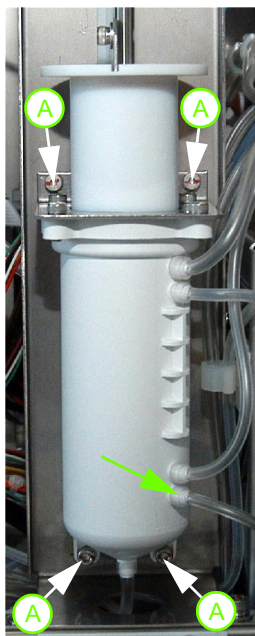

Fig.1: Fourth tube
- ◆ Unscrew the 4 screws (A) maintaining the syringe body to the frame (See “Fig.1: Fourth tube, page 2”).